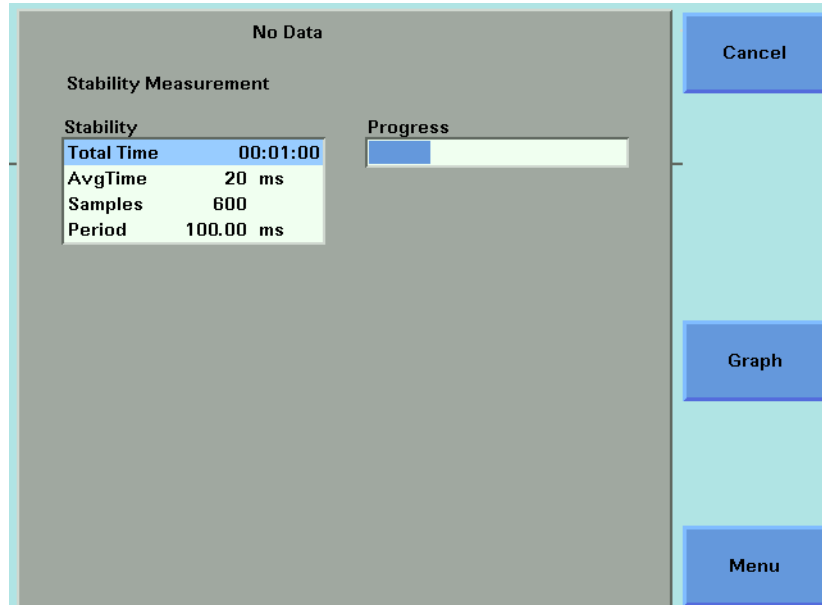

Figure 159 The Stability Measurement Screen - Measurement Running
**17**You can run the stability application by pressing [Measure]. The Stability Measurement screen, as shown in Figure 159, appears. A progress bar shows the proportion of the stability application that has been completed.
**19**When the stability application completes, you hear a beep, an hourglass appears momentarily. If you are viewing the Stability Measurement Screen, the available softkeys change as shown in Figure 159 .